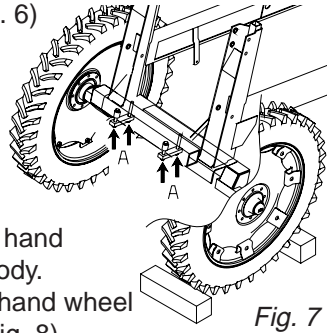

Fig. 7
4. Loosen clamp bolts A (Fig. 7) for left hand wheel axle and extend or retract the axle (Fig. 8).